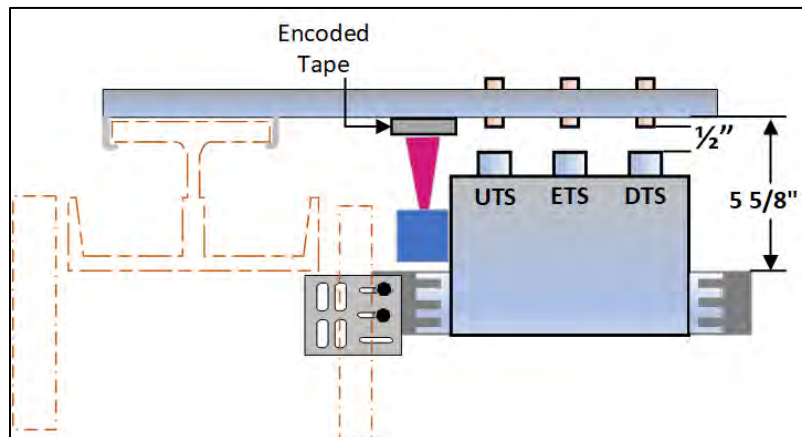

Figure 2-11: APS Selector Box and Mounting
- The edge of the bracket closest to the tape should be approximately 5 5/8 inches from the back of the rail. See Figures 2-11 and 2-12.
- Mount a J-hook bracket with a **GREEN** actuating magnet for the UTS magnetic limit switch at the proper distance from the top terminal landing. See Table 2-1 for the proper distance. See Figures 2-11 and 2-14 for the proper position on the J-hook bracket.
- Mount a J-hook bracket with a **RED** actuating magnet for the DTS magnetic limit switch at the proper distance from the bottom terminal landing. See Table 2-1 for the proper distance. See Figures 2-11 and 2-14 for the proper position on the J-hook bracket.
- The actuating magnets should be positioned in the proper lane and adjusted so that the end of the magnet is 1/2 inch from the face of the magnetic switch as the magnetic switch passes the actuating magnet. See Figure 2-11.